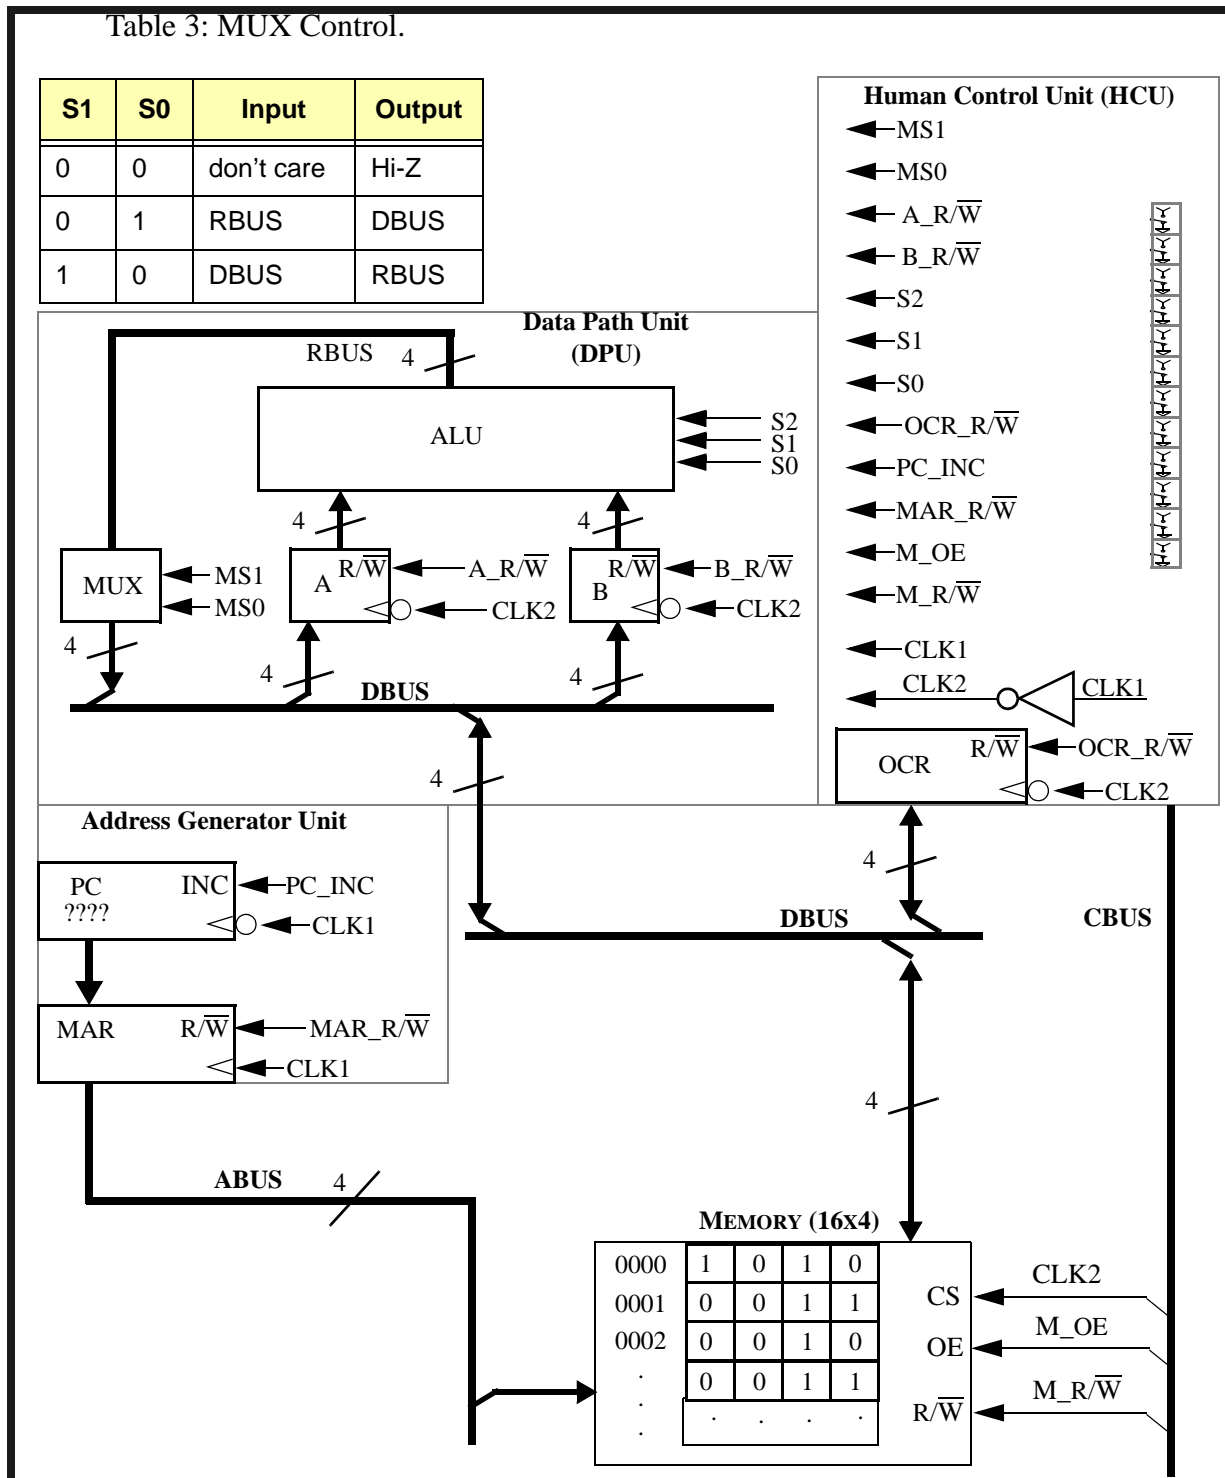

Fig. 1. A tiny data processor.
1. You are given: a data processor as shown in Fig. 1; the ALU function table given in Table 2; and the MUX control table given in Table 3. This question asks you to design the micro-operations for the macro-instruction: $SUB\ N_1, N_2 (N_2 - N_1)$. The binary encoding of this instruction is: 0011 $N_1 N_2$, where 0011 is the opcode, N_1 is the 4-bit operand #1, and N_2 is the 4-bit operand #2. The result of this operation should be stored in Register B. Note: a design goal is to implement this macro-instruction with the least number of micro-operations, and your solution will be graded accordingly. Note: design all micro-operations, including fetch. Note: the program counter can be incremented by one by making $PC_INC=1$ and providing the clock edge, as indicated in Fig. 1.
[1.3] An example instruction SUB 0010,0011 has been placed in the memory of Fig. 1. By analyzing the contents of the memory, determine the initial value of the PC so that the first instruction the machine executes is "SUB 0010,0011" and write that value down here: _____